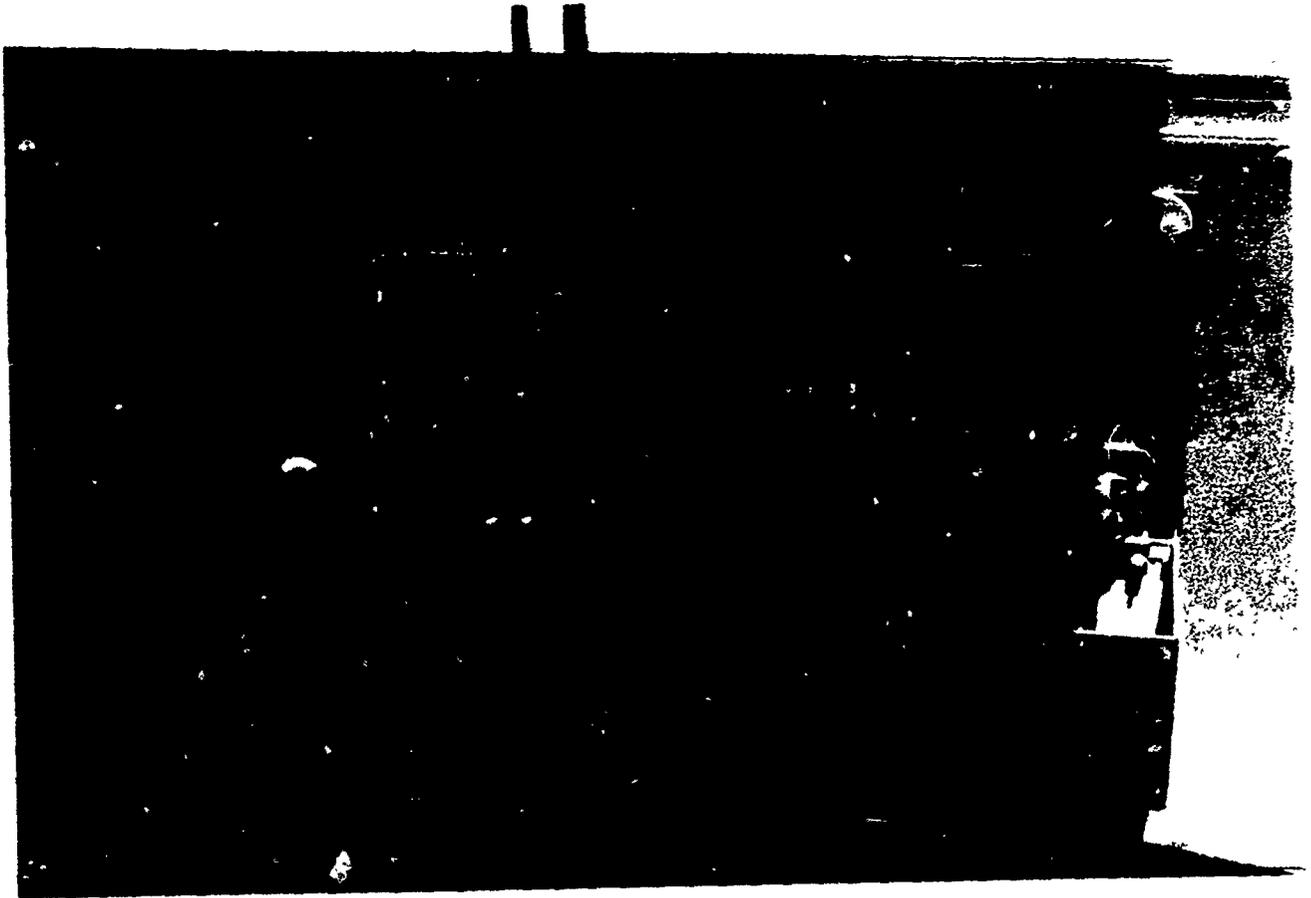

Figure 33. Water and Foam Sensors.
13. Firefighting Agent (Water and Foam Sensors (Figure 33)